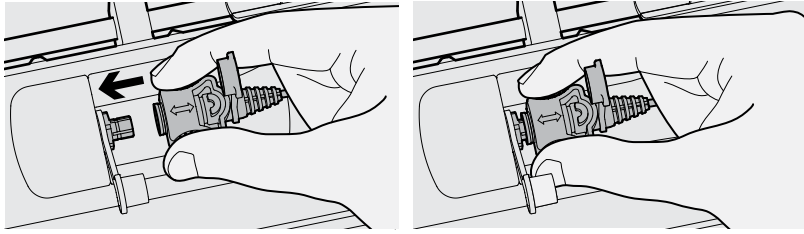

Figure 8: *Connecting the Earset*
- g. Undo the dust caps from the Earset Plug and Earset Socket on the detector. Gently hold the Earset by the rubber collar using thumb and index finger, the raised double arrow should be uppermost (Figure 8). Align the plug with the Earset Socket and firmly slide the collar onto the socket.
The F3Ci has an internal speaker located inside the Main Body, however, it can also be fitted with an Earset via the Earset Socket. The procedure for connecting the Earset as shown in Figure 8: Connecting the Earset.